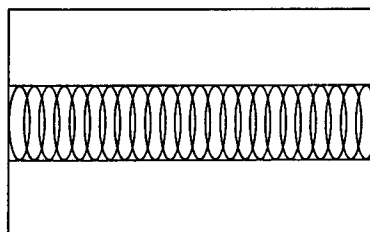

Fig.6
3. Adjust T201 to obtain the waveform Fig.6.